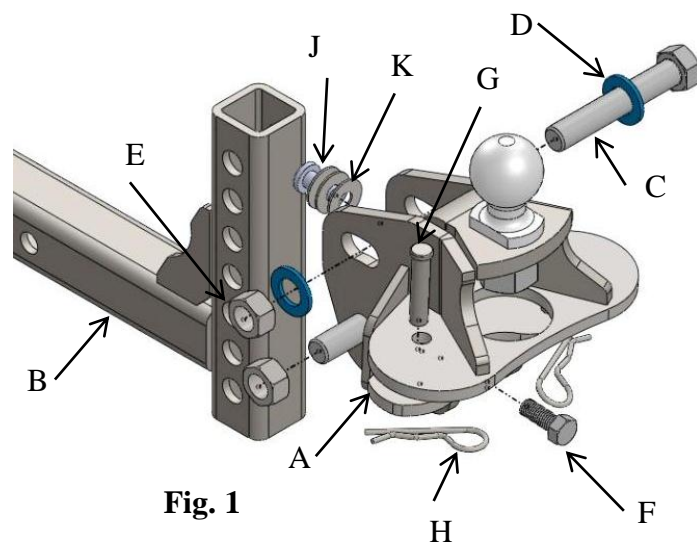

Fig. 1
- Insert draw bar (B) into the tow vehicle receiver in the desired orientation and install the pull pin and clip.
- To begin with, install 2 washers (K) on adjustment pin (J) and insert into top hole in ball mount (A), see Fig. 1 above. Up to 6 washers (K) can be used.